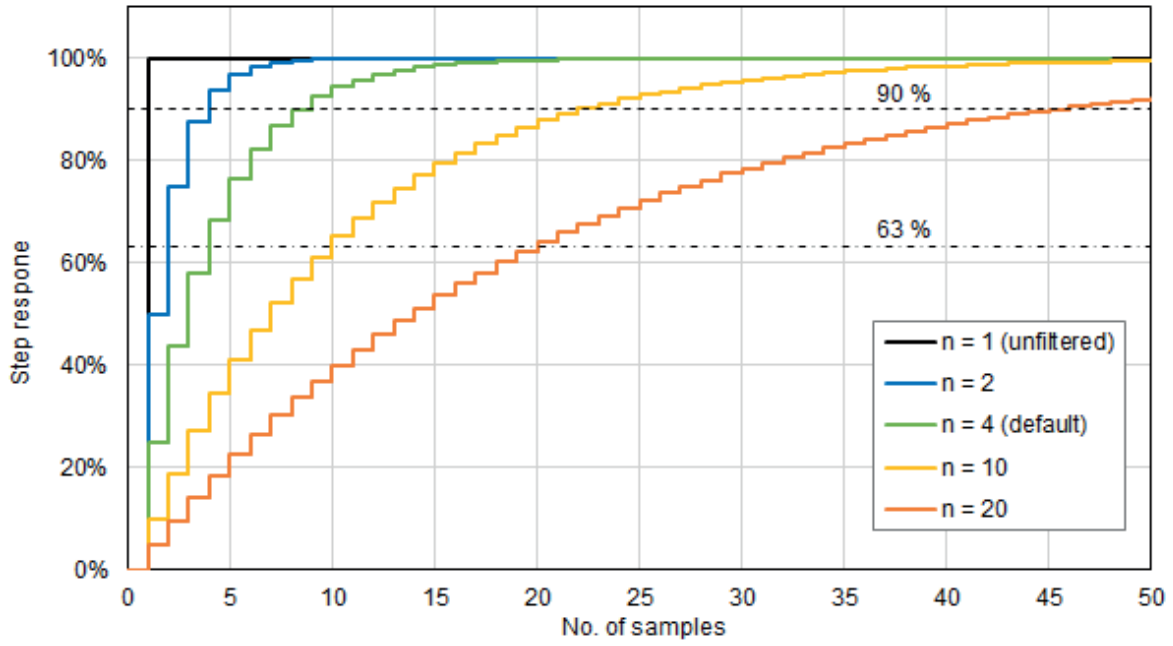

Fig. 13 Step response vs. samples
*) The EE895 features an exponential moving average filter which to a certain degree suppresses the influence of short-term CO₂ variations onto the output CO₂ data. The filter coefficient is user selectable and affects the response time of the EE895. A higher filter coefficient leads to smoother output data and to longer response time, see figure 12. Figure 13 shows the number of samples required to reach 63% or 90% of a CO₂ step as function of the filter coefficient.